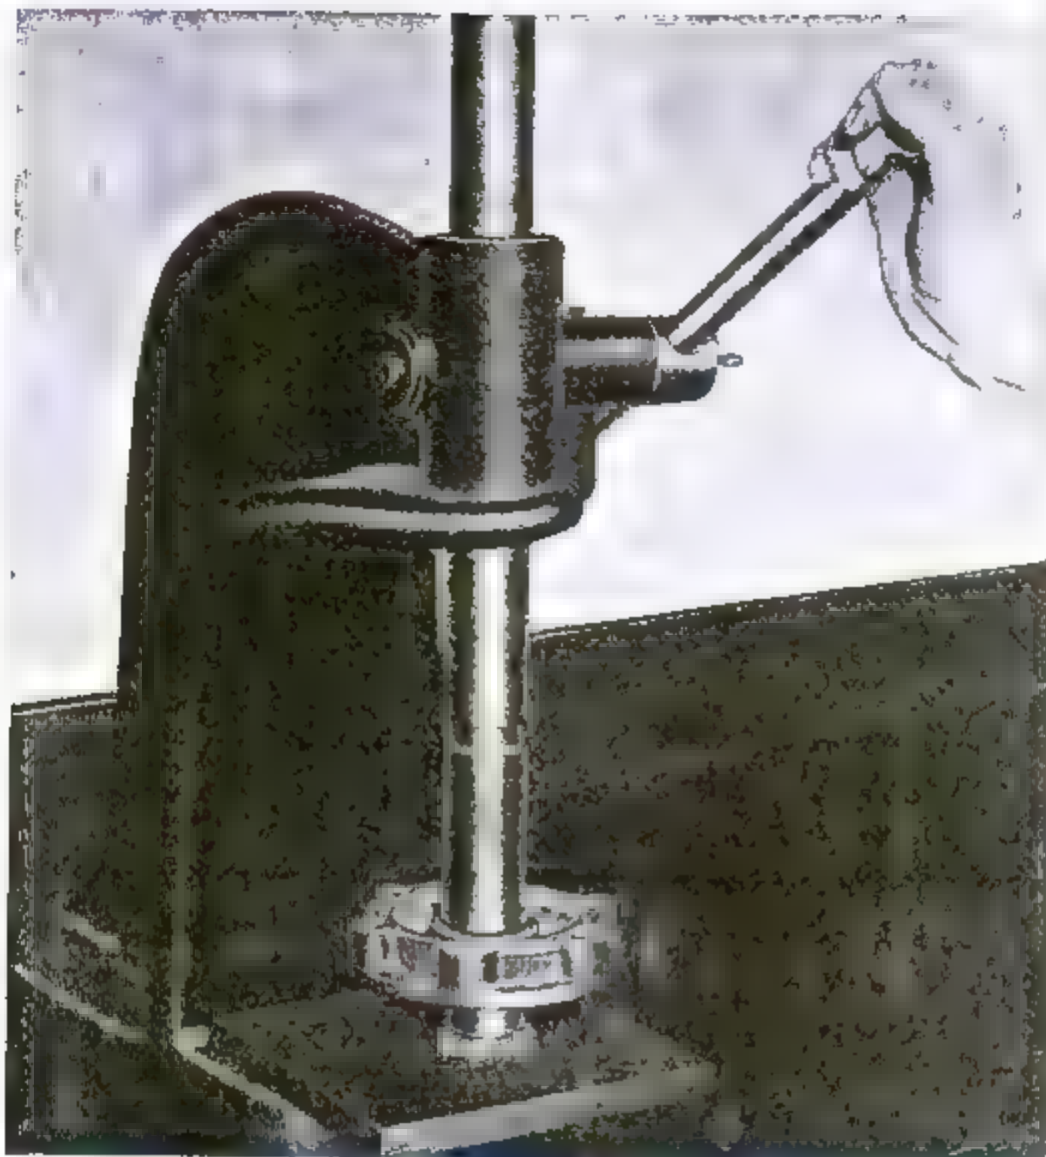

Figure 6-3. Installing Generator Drive Seal
6-27. GENERATOR DRIVE. Apply a coating of corrosion-preventive compound to gear (64) and thrust washer (62). Ascertain that retaining ring (61) is properly seated in shaft groove. If gear, thrust washer are new parts, measure clearance behind gear with standard thickness gauge and compare with Ref. No. 91, Section X. If satisfactory lubricate periphery of new oil seal (59) with grease, Federal Specification VV-G-632, grade 1, type B, and press into adapter as shown in figure 6-3. Make sure that lip of oil seal is on leading side (inward) and is not reversed in passing over shaft end.